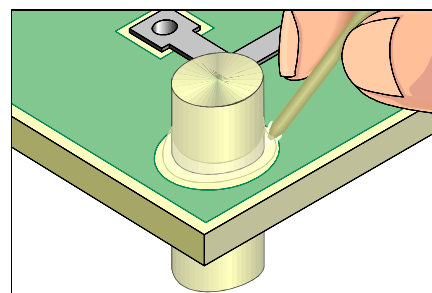

Figure 3: Place replacement dowel in position and bond with epoxy.
7. Coat both the dowel and the hole with epoxy and fit together. Apply additional epoxy around perimeter of new material. (See Figure 3). Remove excess epoxy.